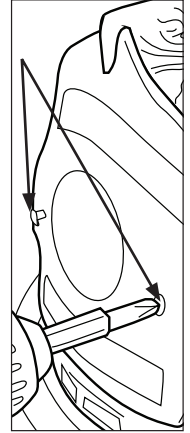

Figure 28
1. Remove the two screws that are holding the leatherfront onto the Eagle (Figure 28).
- Tighten the two screws holding the leatherfront to the Eagle (Figure 28).